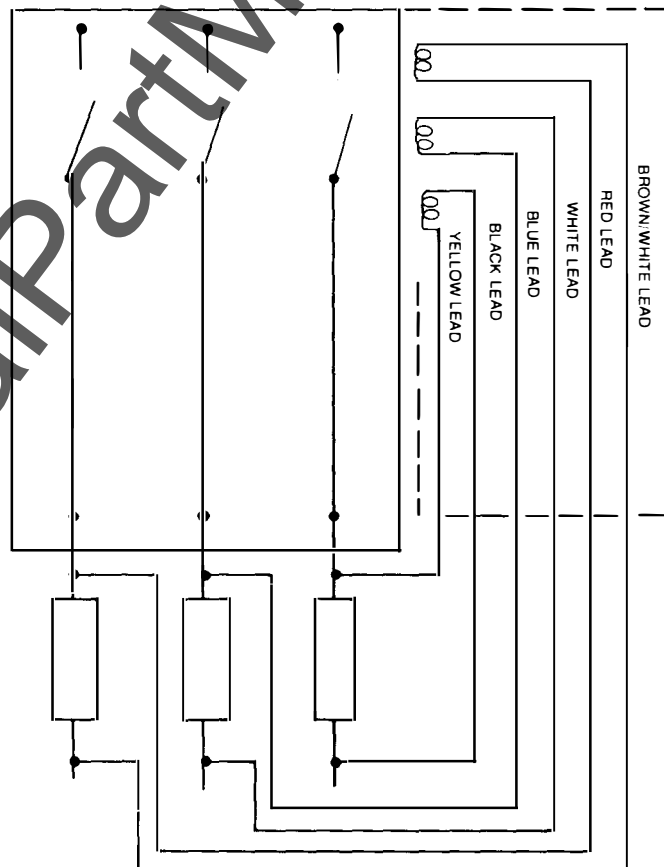

Figure 34. Wiring Diagram
6. Attach six (6) lead wires across each of the three fuses as shown in Figure 34.